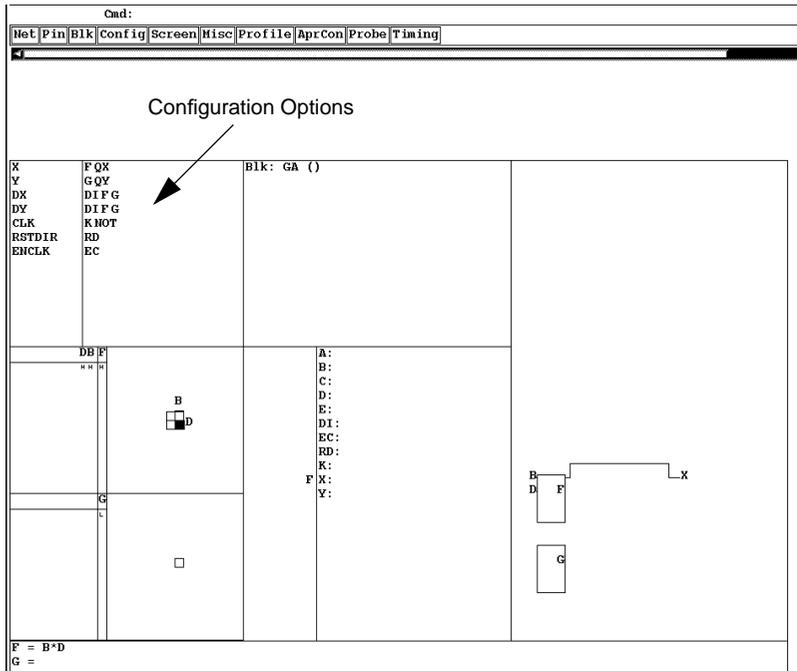

Figure 9-29 CLB Configured as mult0
2. Use Figure 9-29 as a guide to configure block GA.